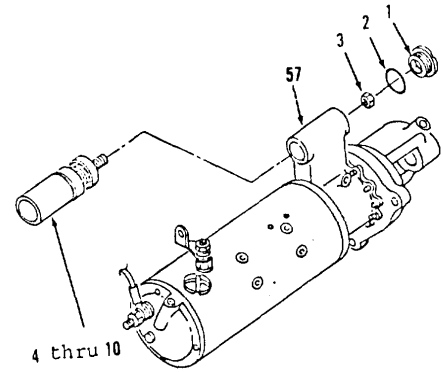
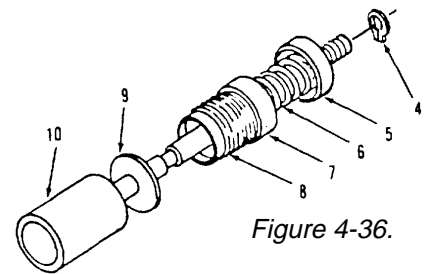

Figure 4-35.
Figure 4-36.
1. Remove plug (1) and preformed packing (2) from housing (57, Figure 4-35). Discard preformed packing (2).
2. Remove lock nut (3).
3. Remove items 4 thru 10 as an assembly from housing (57).
4. Remove snap ring (4), retainer (5), spring (6), retainer (7), boot (8) and washer (9) from shaft of plunger (10, Figure 4-36).